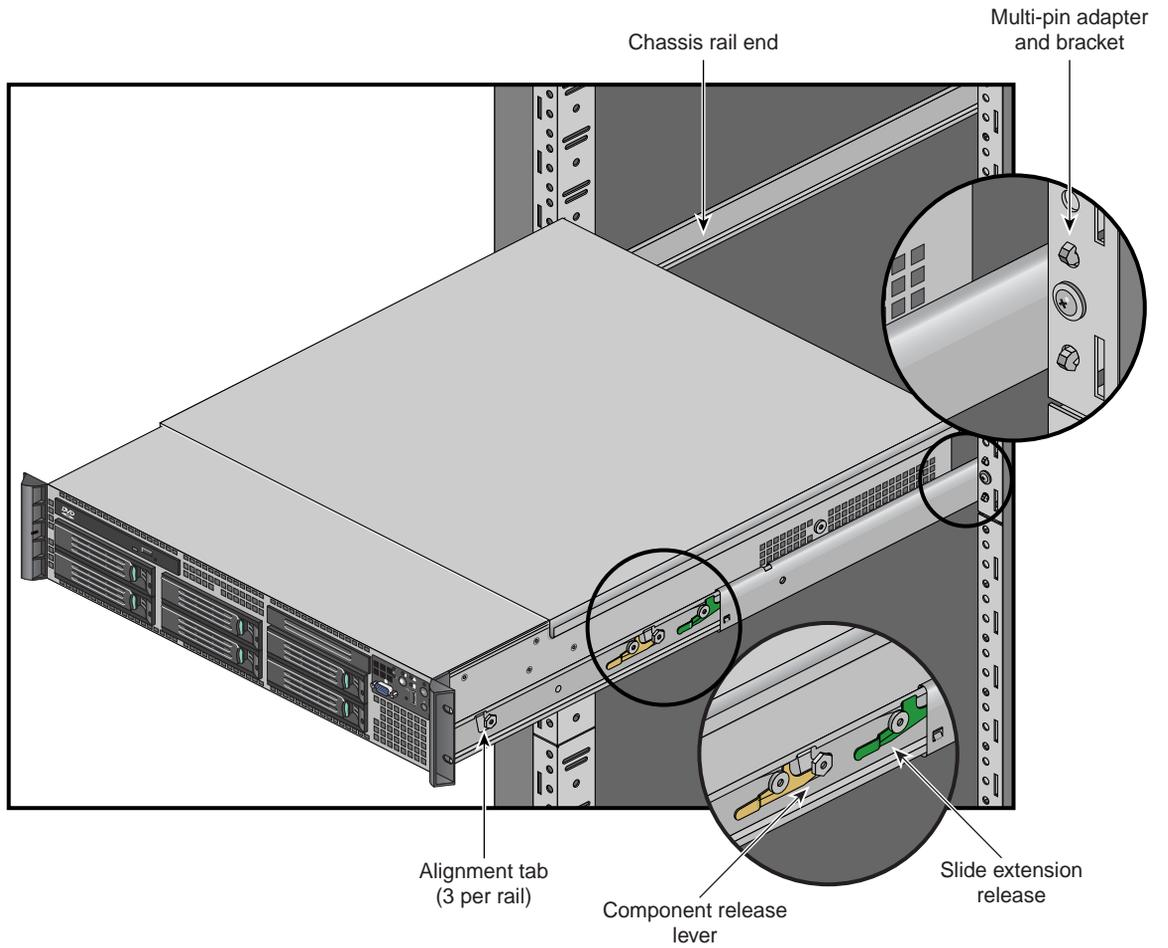

Figure 1-9 NAS Gateway Slide Rails
Position and secure the support rails in the rack using the information in the following steps and Figure 1-9 on page 13.
5. Confirm that all the gateway's mounting studs are correctly in place on the slide rails (see Figure 1-9 on page 13 for an example), before sliding the unit into the rack.